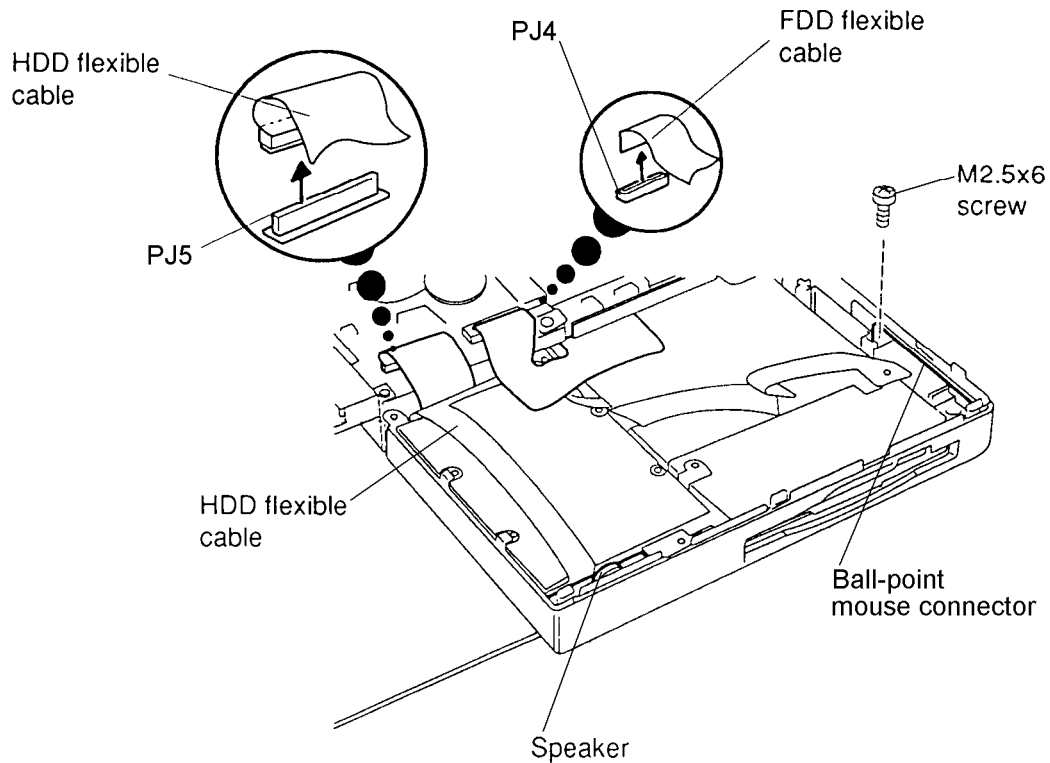

Figure 4-15 Removing the HDD
5. Remove the **one M2.5x6 screw** securing the **ball-point mouse connector** (Figure 4-15).
8. Disconnect the **FDD flexible cable** from **PJ4** on the system board (Figure 4-15).
9. Disconnect the **HDD flexible cable** from **PJ5** on the system board (Figure 4-15).
4. Insert the **speaker** and **ball-point connector**. Make sure the sides of each are seated in their respective **slots** in the computer (Figure 4-15).
5. Connect the **HDD flexible cable** to **PJ5** on the system board. Connect the **FDD flexible cable** to **PJ4** on the system board (Figure 4-15).
6. Replace the **M2.5x6 screw** securing the ball-point mouse connector (Figure 4-15).